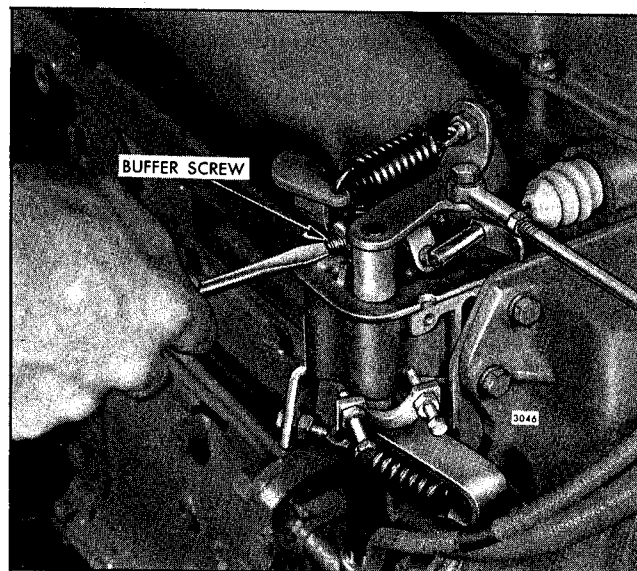

Fig. 7 - Adjusting Buffer Screw
1. With the engine running at idle speed, turn the buffer screw in (Fig. 7) so that it contacts the